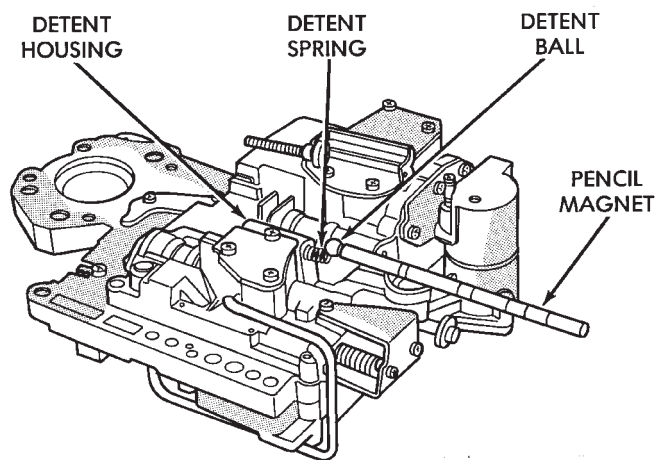

Fig. 48 Detent Ball And Spring
(18) Position pencil magnet next to detent housing to catch detent ball and spring. Then carefully remove Retainer Tool 6583 and remove detent ball and spring (Fig. 48).